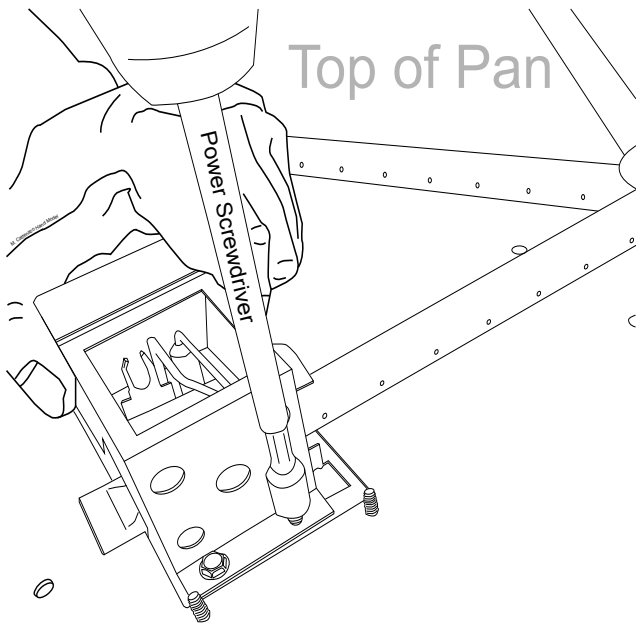

Fig. 4 Installing ignition hood.
Step 5: Using a power screwdriver install the ignition hood overtop of the MSI assembly plate. See Fig. 4. Align the five holes from the ignition hood to the five hole of the assembly plate, then secure in place with provided screws.